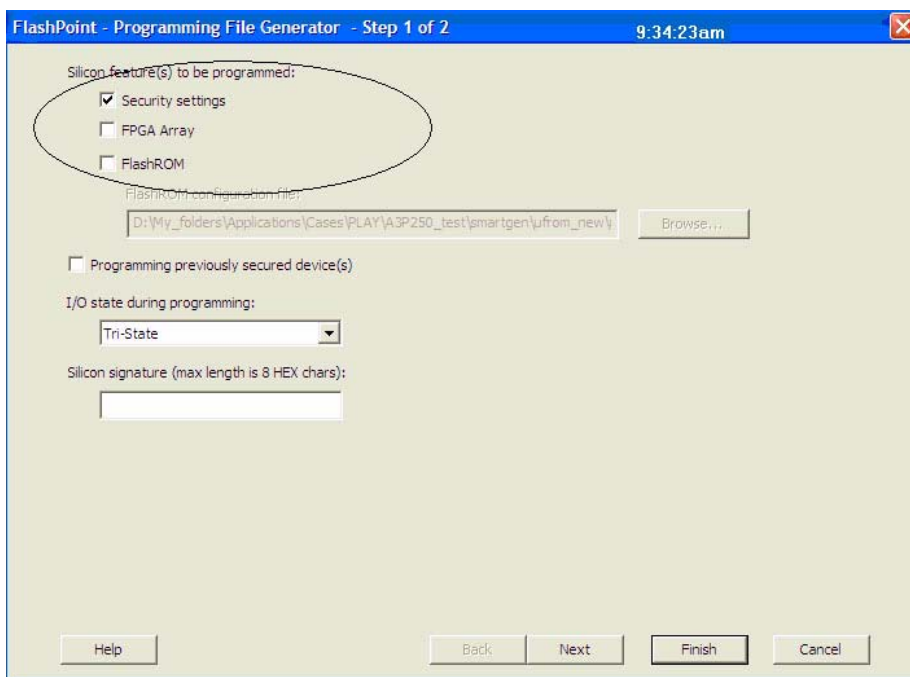
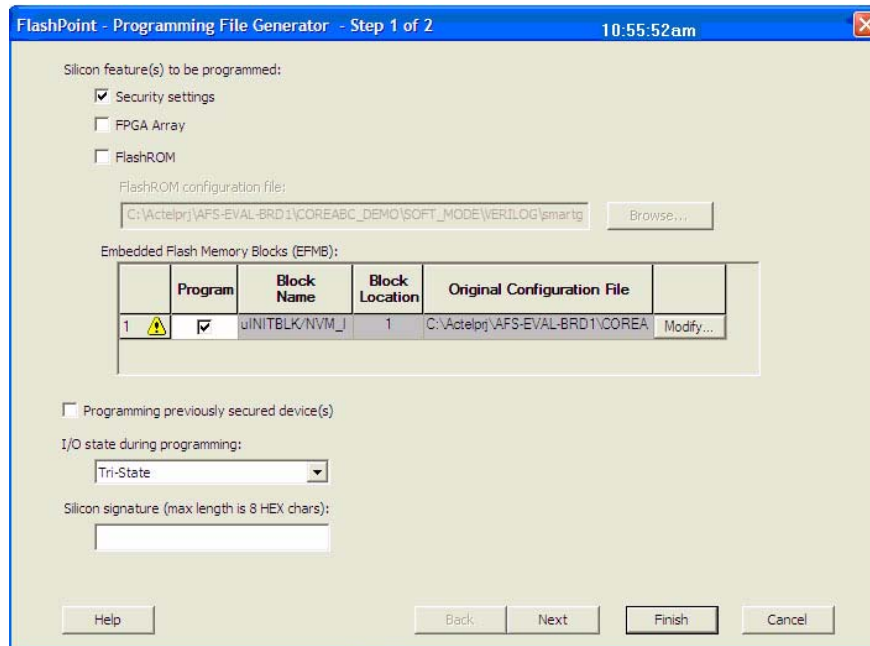

Figure 13-14 • Programming IGLOO and ProASIC3 Security Settings Only
Figure 13-15 • Programming Fusion Security Settings Only
1. Select only the **Security settings** option, as indicated in Figure 13-14 and Figure 13-15 on page 13-18. Click **Next**.